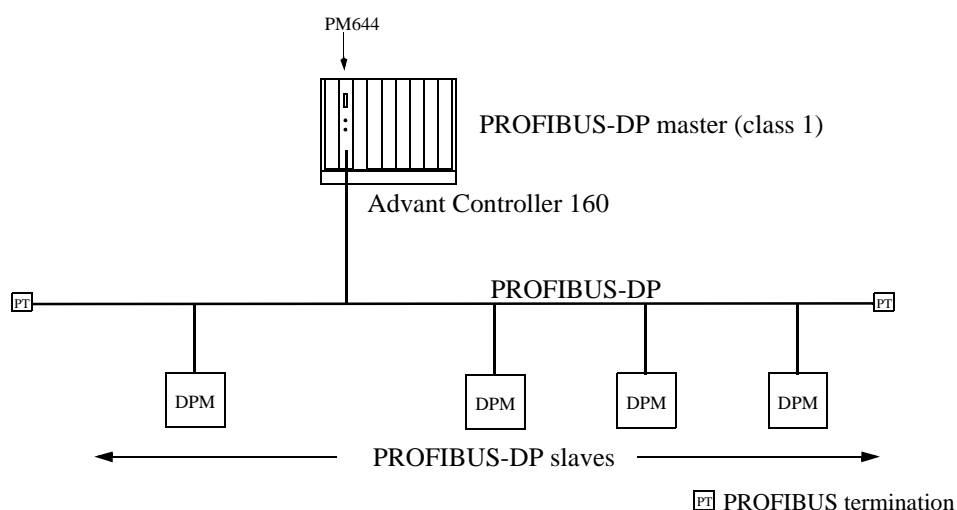

Figure 3-8. Sample PROFIBUS Configuration
- Communication with up to 125 PROFIBUS-DP slaves per PROFIBUS, via twisted pair bus cables according to EN 50170 (Figure 3-8).